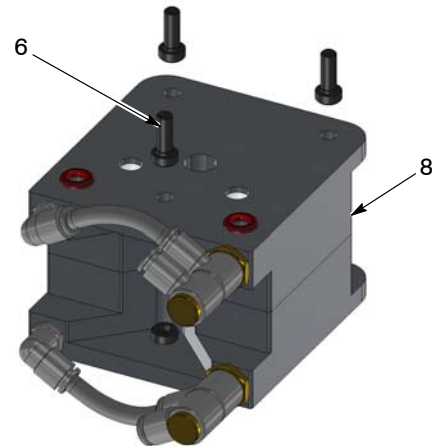

Figure 5 Separating Middle Siphon Blocks
4. See Figure 5. Remove three cap screws (6) from each middle siphon block (8) to separate the two blocks from each other.
- See Figure 5. Using a 4-mm Allen wrench, insert three cap screws (6) into the tapped side of the middle block (8) to secure them together.